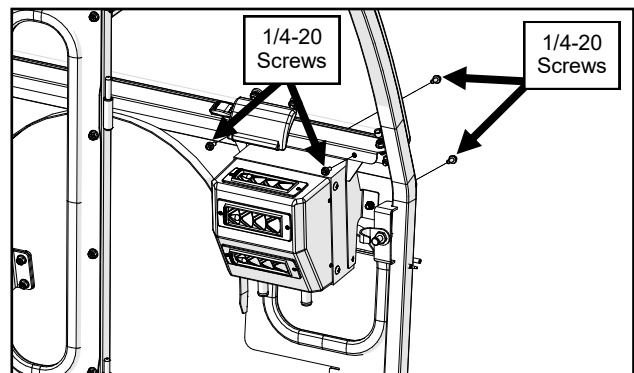

Fig. 17.2 (Install Heater)
17.2 Attach the heater to the cowl. See Figure 17.2.